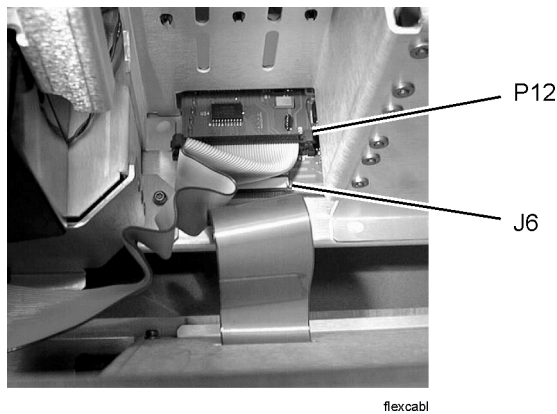

Figure 3-19. Removing the front panel flex cable from the interface board
- 9 Remove the display board harness from connector P12 on the interface board. See Figure 3-19 below.
- 10 Disconnect the flex cable from connector J6 on the interface board. See Figure 3-19 below.
- 8 Remove the display board harness from connector P12 on the interface board. See Figure 3-19 below.
- 9 Disconnect the flex cable from connector J6 on the interface board. See Figure 3-19 below.